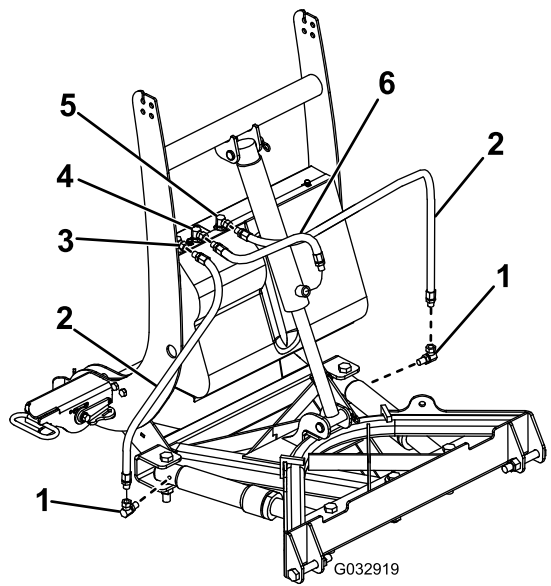

Figure 8
- Install the 1/4 inch end of the 45 cm (18 inch) hose to the middle fitting on the hydraulic manifold (Figure 8). Turn the fitting until it is finger tight, then turn it 2 to 3 more times.
- Install the 3/8 inch O-ring end of the 45 cm (18 inch) hose to the lower fitting on the lift cylinder (Figure 8). Turn the fitting until it is finger tight, then turn it 2 to 3 more times.
- Using thread compound, install a 90° fitting to the right angle cylinder located on the push-frame assembly (Figure 8).
- Install the 1/4 inch end of the 86 cm (34 inch) hose to the right fitting on the hydraulic manifold (Figure 8). Turn the fitting until it is finger tight, then turn it 2 to 3 more times.
- Install the 3/8 inch end of the 86 cm (34 inch) hose to the previously installed 90° fitting (Figure 8). Turn the fitting until it is finger tight, then turn it 2 to 3 more times.